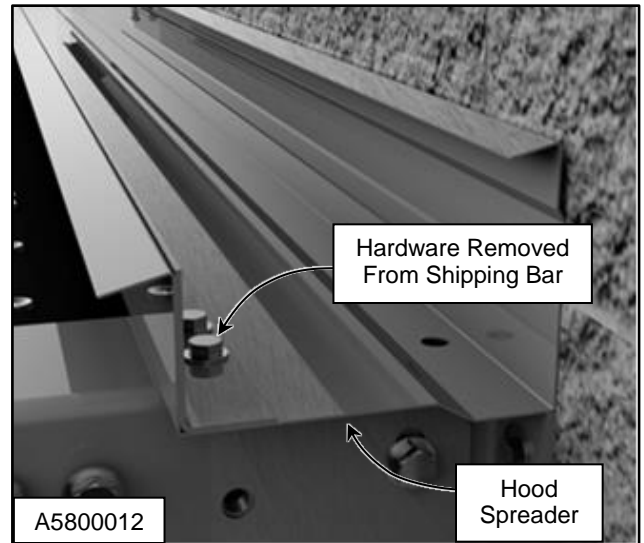

Figure 35
2. Install the hood spreader with the hardware that was removed from the shipping bar. (See Figure 35)